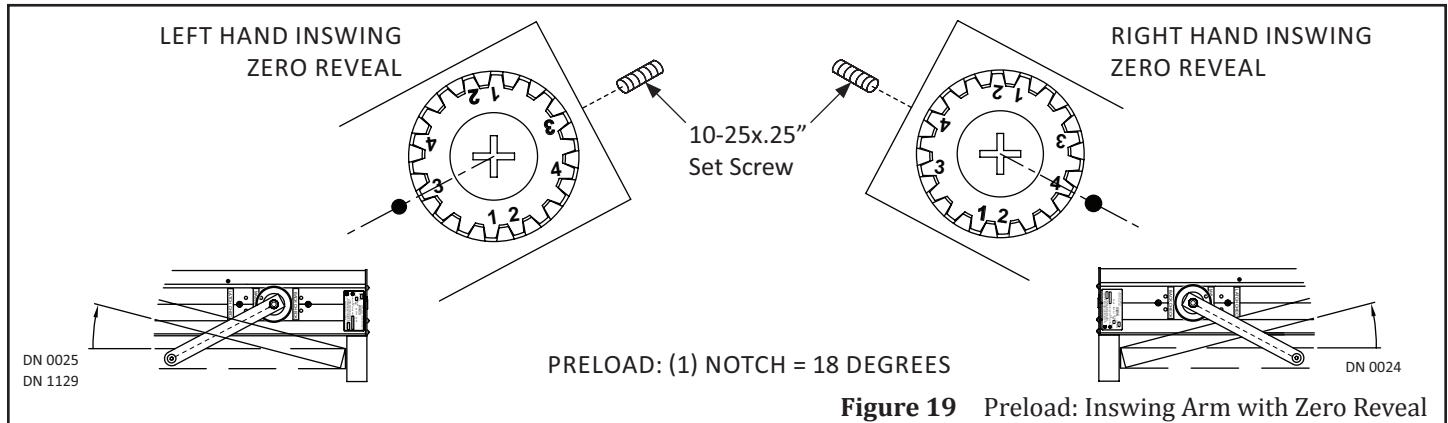

Figure 19 Preload: Inswing Arm with Zero Reveal
3. Please see Figure 17, or Figure 18, or Figure 19.